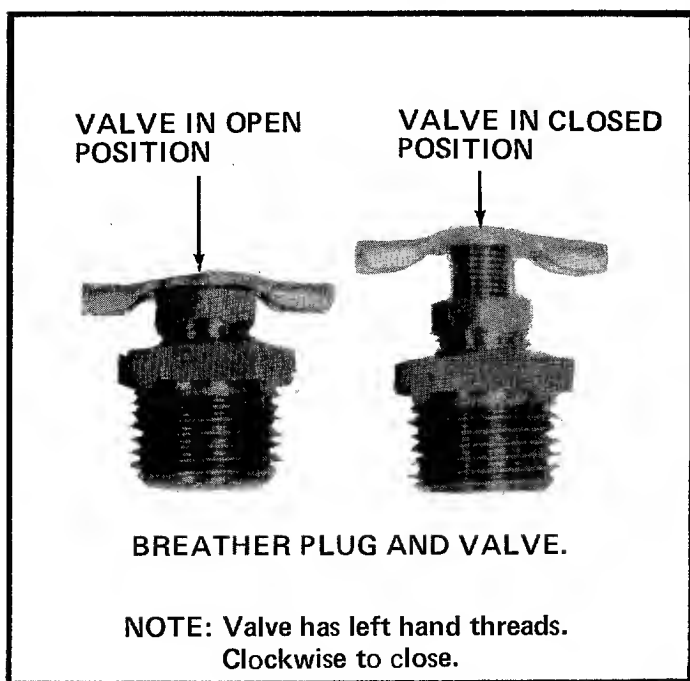

FIGURE 15
3. Open the breather valve. Valve must be open when running log splitter. Valve must be closed when transporting log splitter. See figure 15.